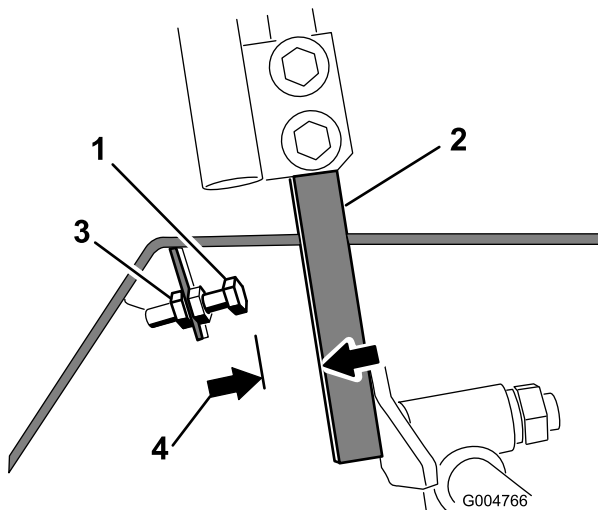

Figure 54
- Loosen the jam nut on the stop bolt for one of the control levers (Figure 54).